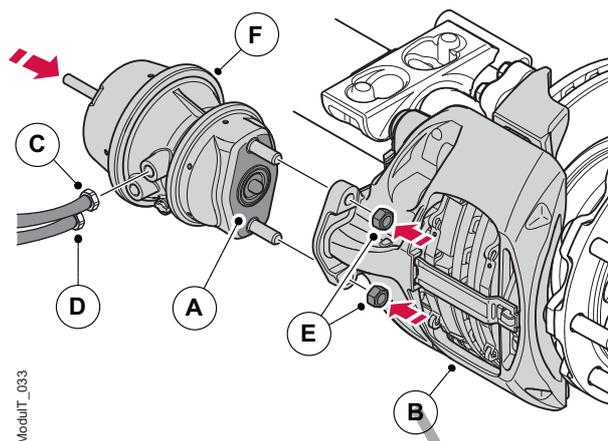

Figure 39. Installation of brake chamber items
5. Fit the new brake chamber (A) to the calliper (B) with nuts (E), see figure 39. Screw the nuts home first before torque tightening to ensure the brake chamber seats parallel.
6. Fit the brake chamber hose connection of the service brake (C) and if applicable the parking brake (D). If fitting both hoses, ensure connections (C) and (D) are the correct way around. See figure 39.